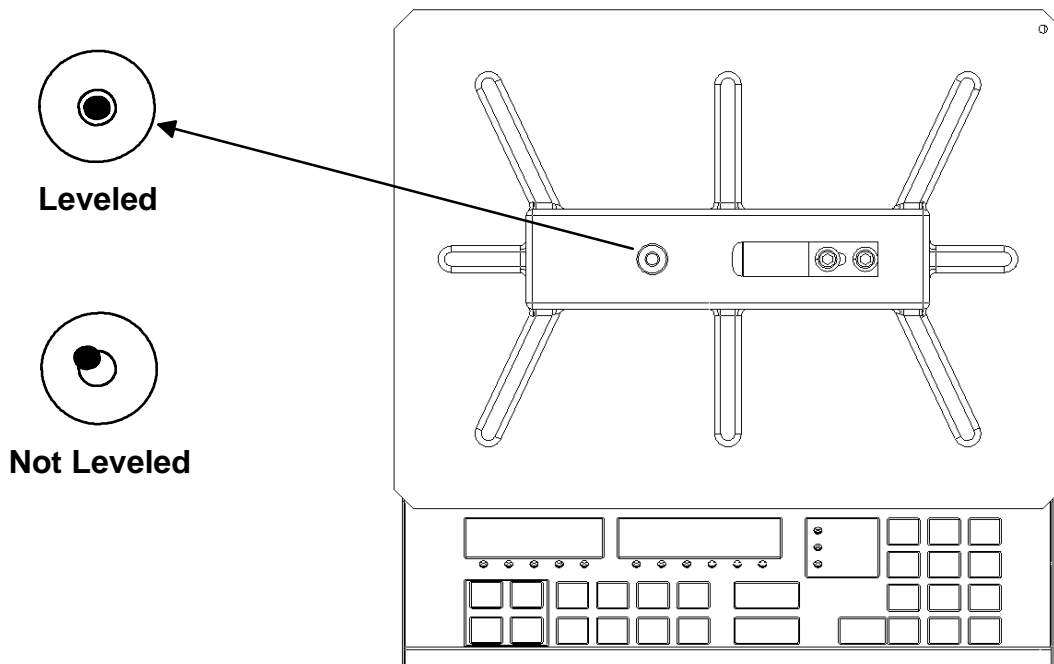

Figure No. 1
Check to make certain the scale is level. The level indicator is located in the center of the weighbridge under the Stainless Steel commodity tray. Remove the commodity tray and observe the level bubble (see Figure No. 1). If the scale is not level (the bubble will not be centered), loosen the locking nut on all four (4) mounting feet (see Figure No. 2) and adjust them as required to center the bubble and attain a level scale. Once a level condition has been obtained, lock the mounting feet in place by tightening the adjustment nuts against the bottom of the scale.